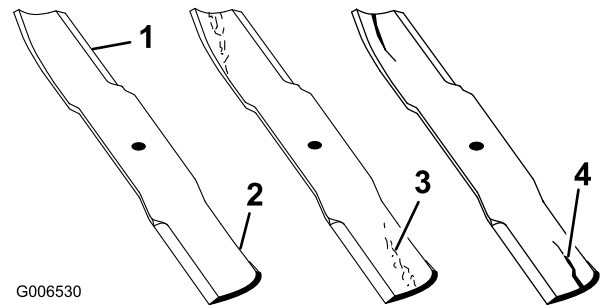

Figure 50
1. Inspect the cutting edges (Figure 50).
2. Inspect the blades, especially the curved area (Figure 50).
Note: If you notice any damage, wear, or a slot forming in this area (Figure 50), immediately install a new blade.